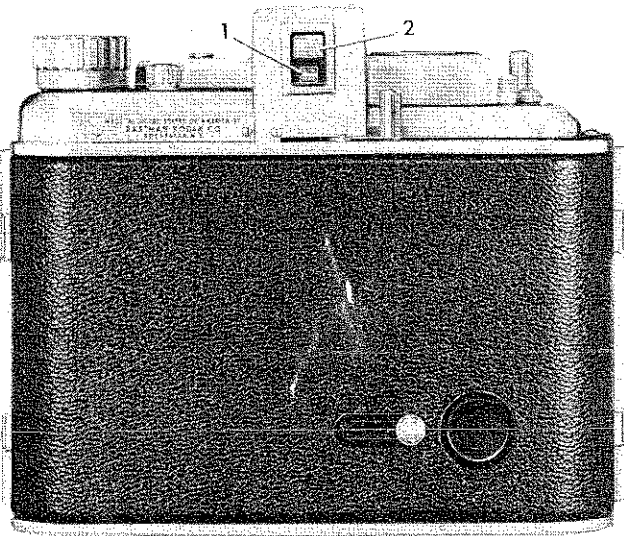

Figure 3—Kodak Medalist, Rear View
are brought together in a twin eyepiece (figure 3). A shift in the angle of vision—without moving the camera—shows both fields.
(1) The range finder eyepiece is directly below the view finder (figure 3). Look through the eyepiece. It will be noted that a distinct horizontal line cuts the field of view into two equal parts. Select as a target a vertical line in that portion of the subject which must be sharpest in the picture. The line will appear broken. (See figure 13.) Turn the focusing collar until